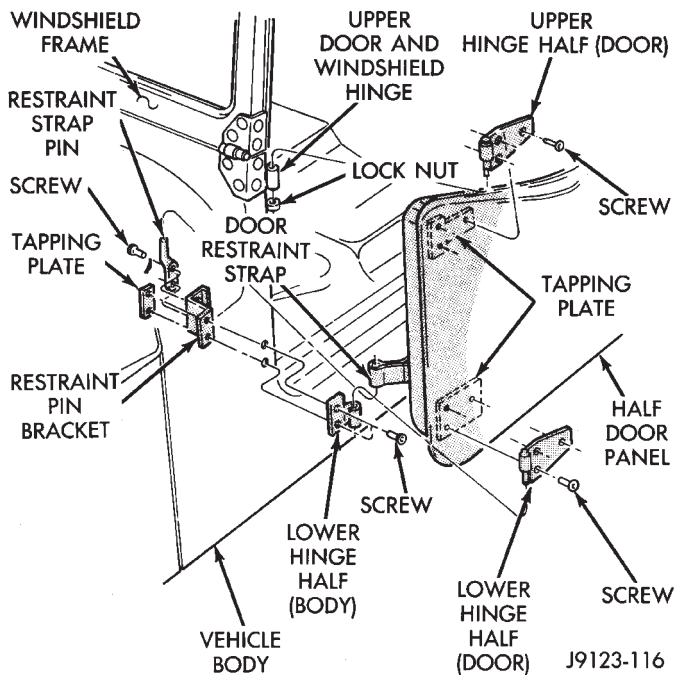

Fig. 1 Half-Metal Soft Top Door
- (1) Open the door.
- (2) Disconnect the door restraint strap from the pin (Fig. 1).
(11) Remove the retaining nuts from the door hinge pivots and remove the door from the body (Fig. 1).
(12) Remove the retaining screws and the hinges from the door.
(1) Install the hinges and the retaining screws on the door. Tighten the screws securely.
(2) Position the door at the vehicle, insert the hinge pivots in the hinge receptacles and install the retaining nuts (Fig. 1). Tighten the nuts securely.
- (10) Install the window (Fig. 1).
- (11) Attach the restraint strap to the pin (Fig. 1).